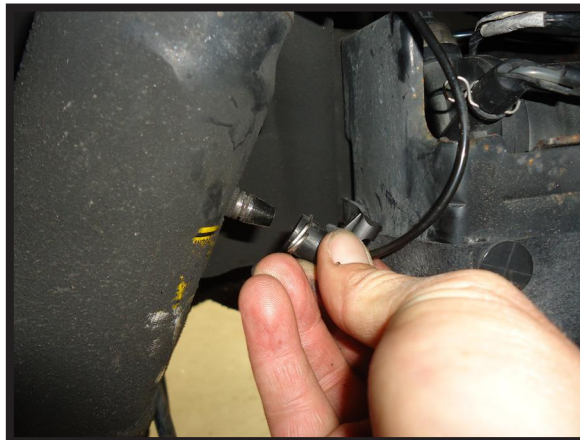

FIGURE 47
4. LOCATE AND REMOVE THE AIR LINES TO DEFLATE THE AIR SHOCKS. TURN THE METAL CLIP APPROXIMATELY 90° TO REMOVE THE AIR LINE FITTING FROM THE AIR SHOCK. (FIGURE 47)